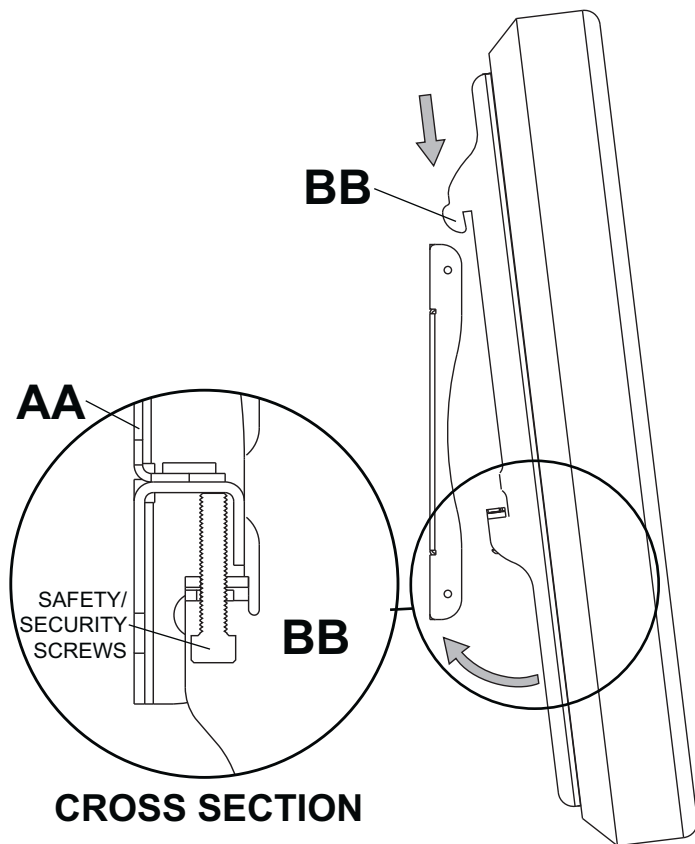

fig 3.1
- 3** Hook adapter brackets (**BB**) onto wall plate (**AA**). Then slowly swing screen in as shown. Turn safety/security screws, using security allen wrench (**FF**), clockwise at least six times to prevent screen from being removed as shown in cross section of fig. 3.1. Screen can be adjusted horizontally if desired as shown in figure 3.2.